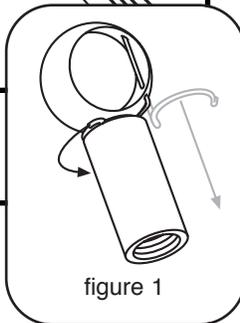

figure 1
2. Remove the locking pins from the top and bottom of both gas springs. (See figure 1)